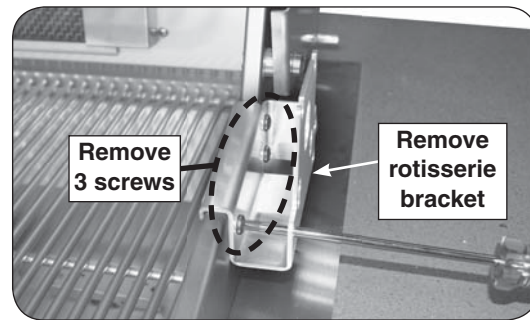

Fig. 2-1 Remove rotisserie bracket
1. Remove the existing rotisserie mounting bracket by unfastening and removing the 3 screws with a Phillips screwdriver (see Fig. 2-1).